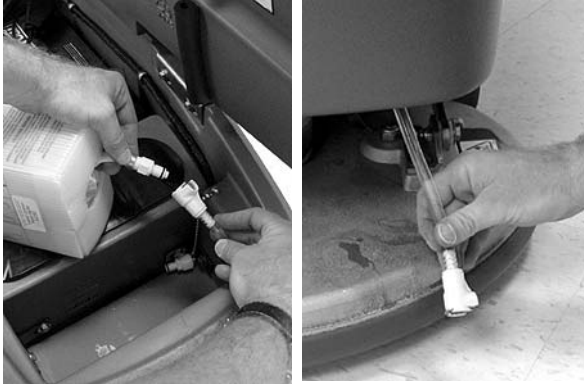

FIG. 59
1. Disconnect the FaST-PAK from the FaST system and route the supply hose down to the scrub head (Figure 59).